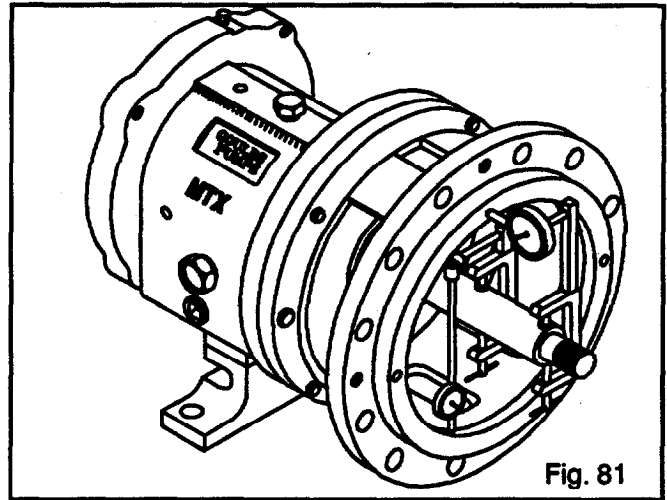

Fig. 81
- Check adapter fits. Rotate shaft thru 360 degrees. If total indicator reading is greater than .005 in. (.13 mm), determine the cause and correct before proceeding (Fig. 81).